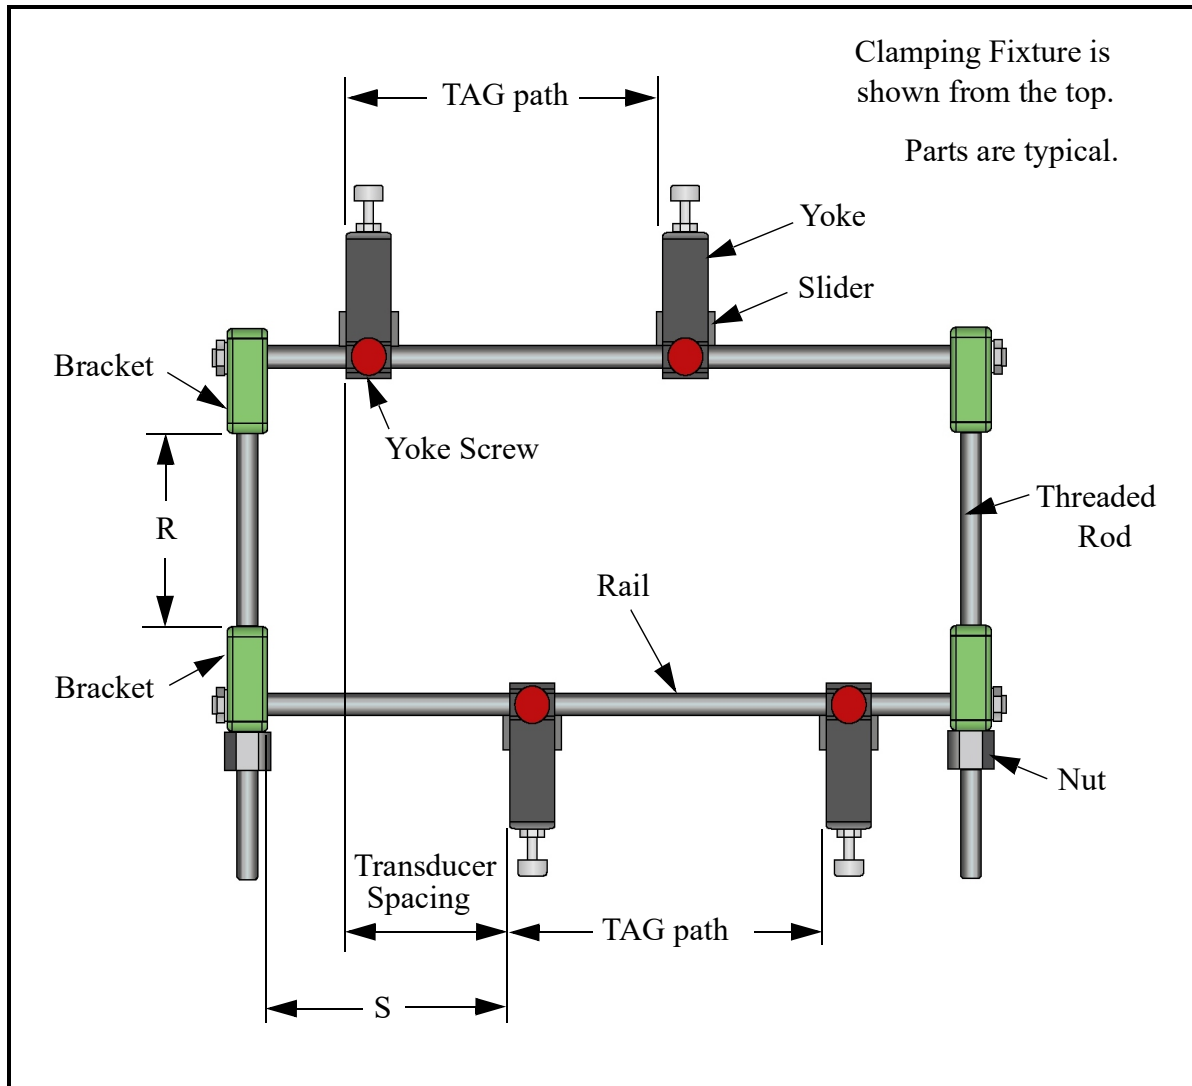

Figure 4: CFT-V Clamping Fixture Setup
1. Referring to Figure 4 below, set the first yoke at a short distance from the end bracket and tighten the yoke screw.
Refer to Figure 4 on page 14 and mount the CFT-V clamping fixture on the pipe.
3. Using a caliper, measure the four spacings (represented by R in Figure 4 on page 14) between the brackets and make sure that they are the same.